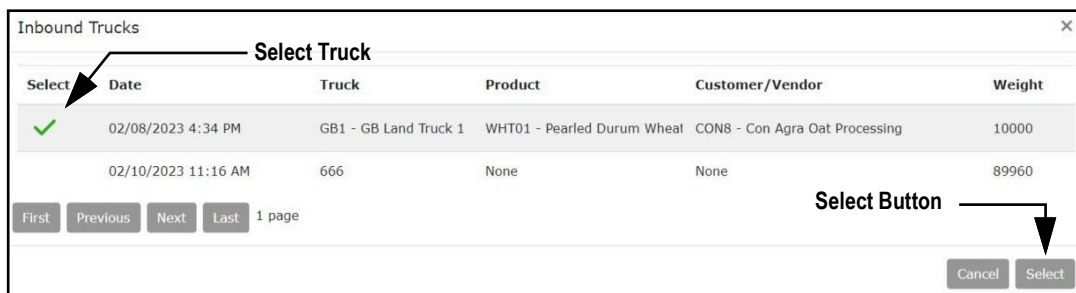

Figure 9-10. Inbound Trucks Window
4. The Inbound Trucks window displays (see Figure 9-10 on page 140).